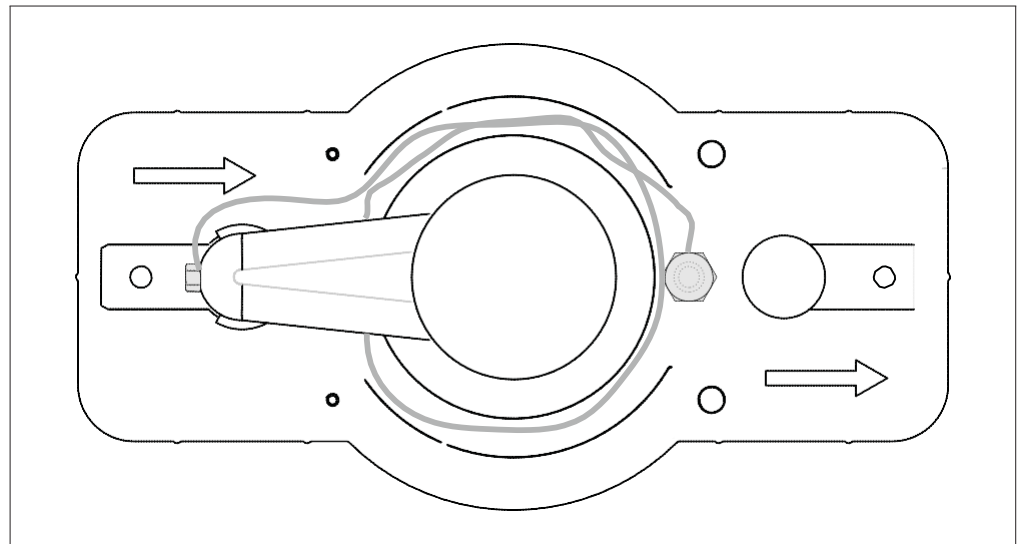

Fig.9-02
9. Place the equipotential bonding of the inlet tube once around the base (see Fig. 9-02).
When determining the place of installation of the LRS 04 Ex, it must be ensured that it is possible for the inlet tube to be replaced at the place of installation. For removal of the inlet tube a clearance of minimum 470 mm must be provided. During installation of the LRS 04 Ex, mounting must be with as little vibration as possible. The tube must not be bent. It must be ensured that the direction of installation of the LRS 04 Ex is corresponding to the air flow direction in the channel. For that purpose, the LRS 04 Ex must be mounted such that the arrows (marked on the bottom of the housing) see Fig. 9-02 point into the direction of the air flow within the channel.